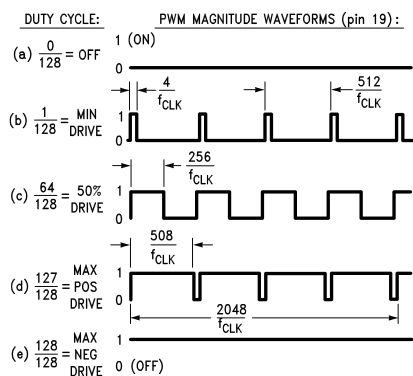

FIGURE 11. PWM Output Signal Format (Sign output (pin 18) not shown)
3. LM629 (sign/magnitude outputs): Outputs a PWM signal on Pin 18 (11 for surface mount), and a PWM magnitude signal on Pin 19 (13 for surface mount). Pins 20 to 25 are not used in the LM629. Figure 11 shows the PWM output signal format.
The LM629 provides 8-bit, sign and magnitude PWM output signals for directly driving switch-mode motor-drive amplifiers. Figure 11 shows the format of the PWM magnitude output signal.